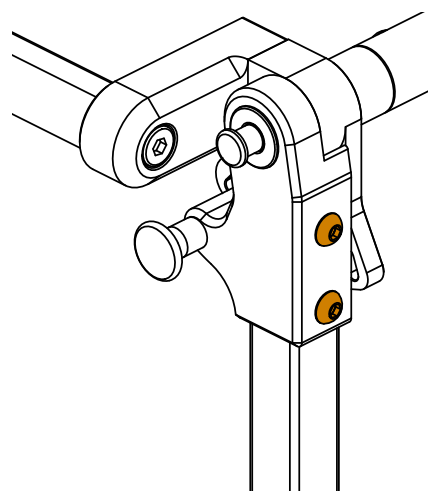

Figure 38. Separate leg rests - Screws for leg rest tubes
2. Remove the screws (Figure 38) and take the tube out of the joint block.